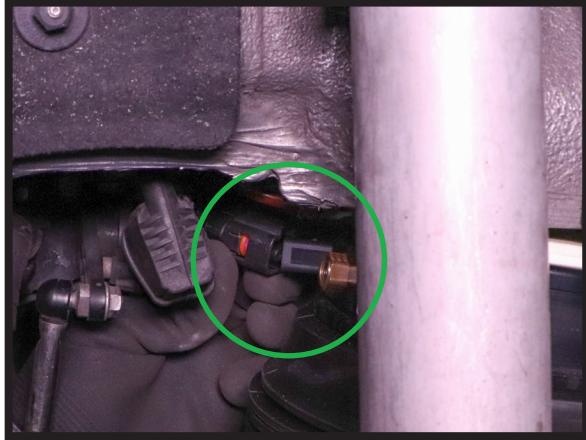

FIGURE 12
3. RECONNECT THE AIR SPRING ELECTRICAL CONNECTION. (FIGURES 12, 13)